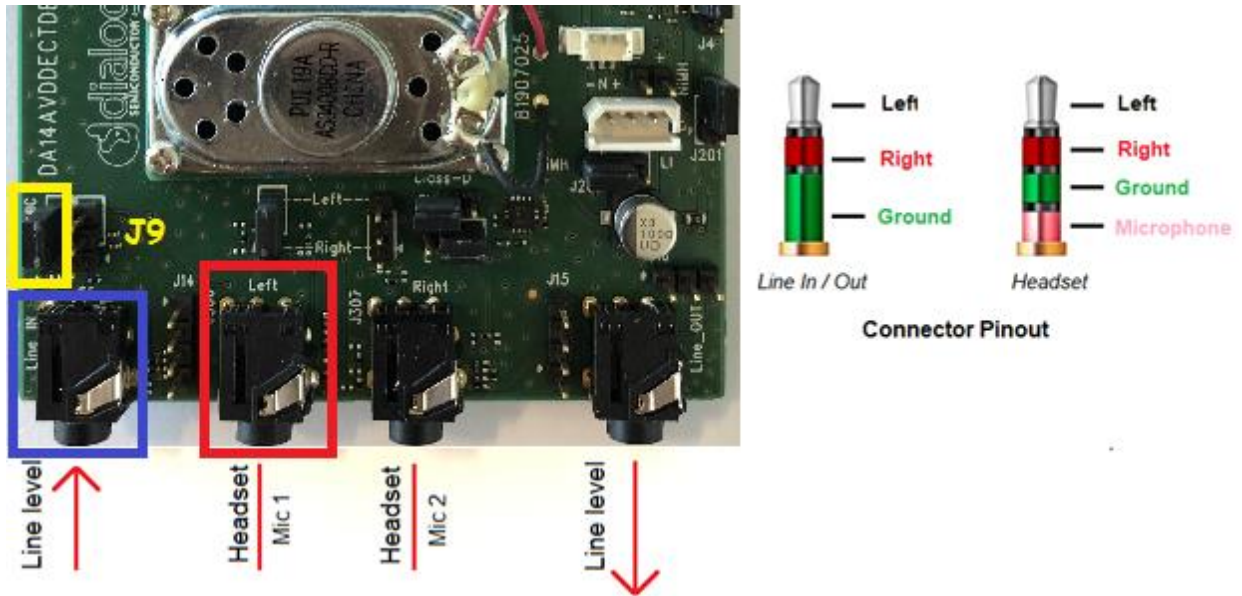

Figure 9: Audio Connector Definition
- Headsets can be connected via a 3.5 mm audio jack (marked red in Figure 9) to the FP carrier board and to the PP carrier board, where the user can listen to broadcasted audio.
- Optionally, smartphone outputs can be connected to "Line_In" on the FP board (marked blue in Figure 9). Please note that the default analog input gain (+20 dB) is configured for headset use, but it can be easily changed to, for example, 0 dB as described in the Audio Data Stack Tour Guide example application ([\[2\]](#)). Use J9 jumper (marked yellow in Figure 9) to change the audio input from J306 (Headset) to "Line In".